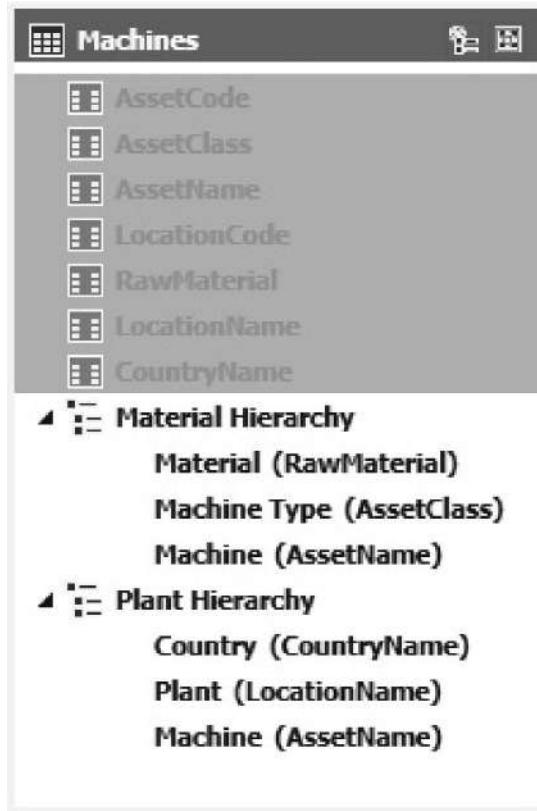

Figure 9-30 The Machines table with hierarchies
21. Right-click these fields and select Hide from Client Tools in the context menu. The Machines table should appear, as shown in Figure 9-30.